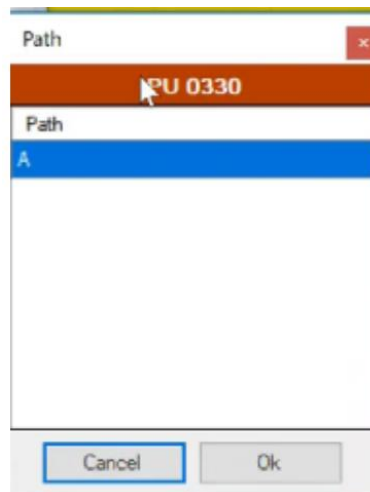

Fig. 326 - Connect path to PU
2. The software will recognize the PU number and the user can associate to a path (Fig. 326);